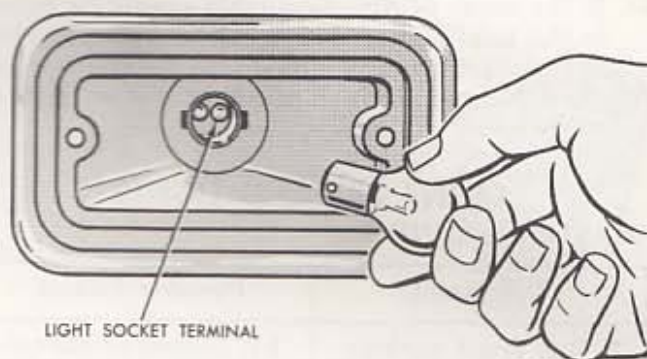

Fig. 19—Light Socket Terminal
- 1-2. Check for power at the turn signal light socket terminal (Fig. 19). If there is no power, check for power at the connections in the circuit between the light socket and the terminal block.